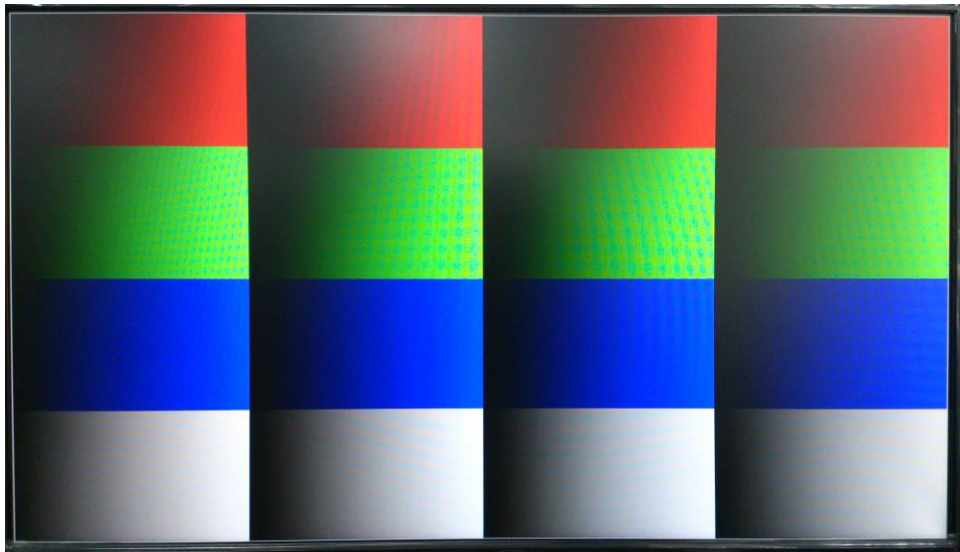

Figure 6-10 The Video pattern used in the HDMI TX Demonstration
- Wait for a few seconds for the LCD monitor to power up itself. And you should see a pre-defined video pattern shown on the monitor, as shown in **Figure 6-10**.
Pressing the on-board push-button KEY1 can switch the current display mode alternatively between the built-in formats listed in Table 6-2. The pattern displayed will look similar to the one shown in Figure 6-10